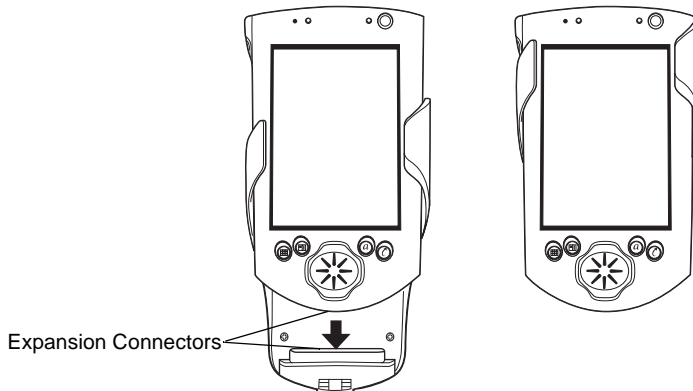

Figure 2-1. Inserting the iPAQ into the SPS 3000
1. Slide the iPAQ through the SPS 3000 sleeves to connect the iPAQ and SPS 3000 expansion connectors (see Figure 2-1).
1. Insert the iPAQ into the SPS 3000 (see Figure 2-1).